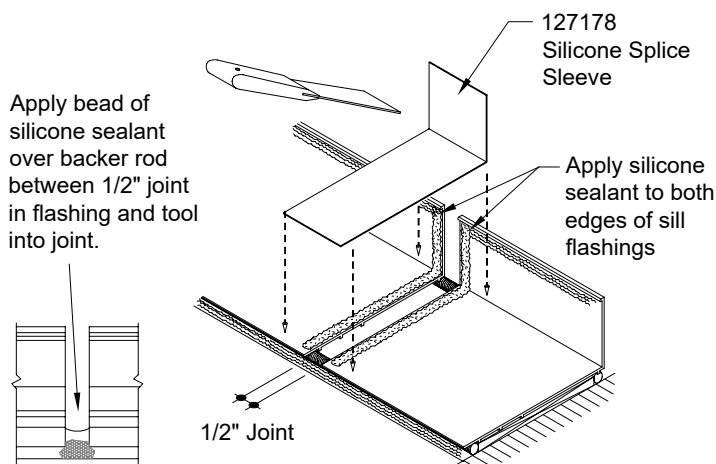

FIGURE 1
4. Apply bead of silicone within 1/2" of the edge of the sill members on each side of the 1/2" joint. (Figure 1)